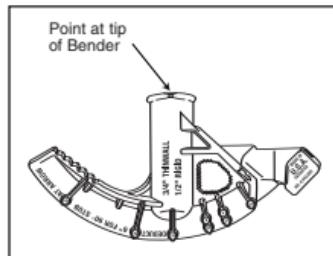

Figure 3
- 4.** Bend until the point on the top of the conduit bender aligns with desired teardrop arrow. Please see Figure 3 & 4.